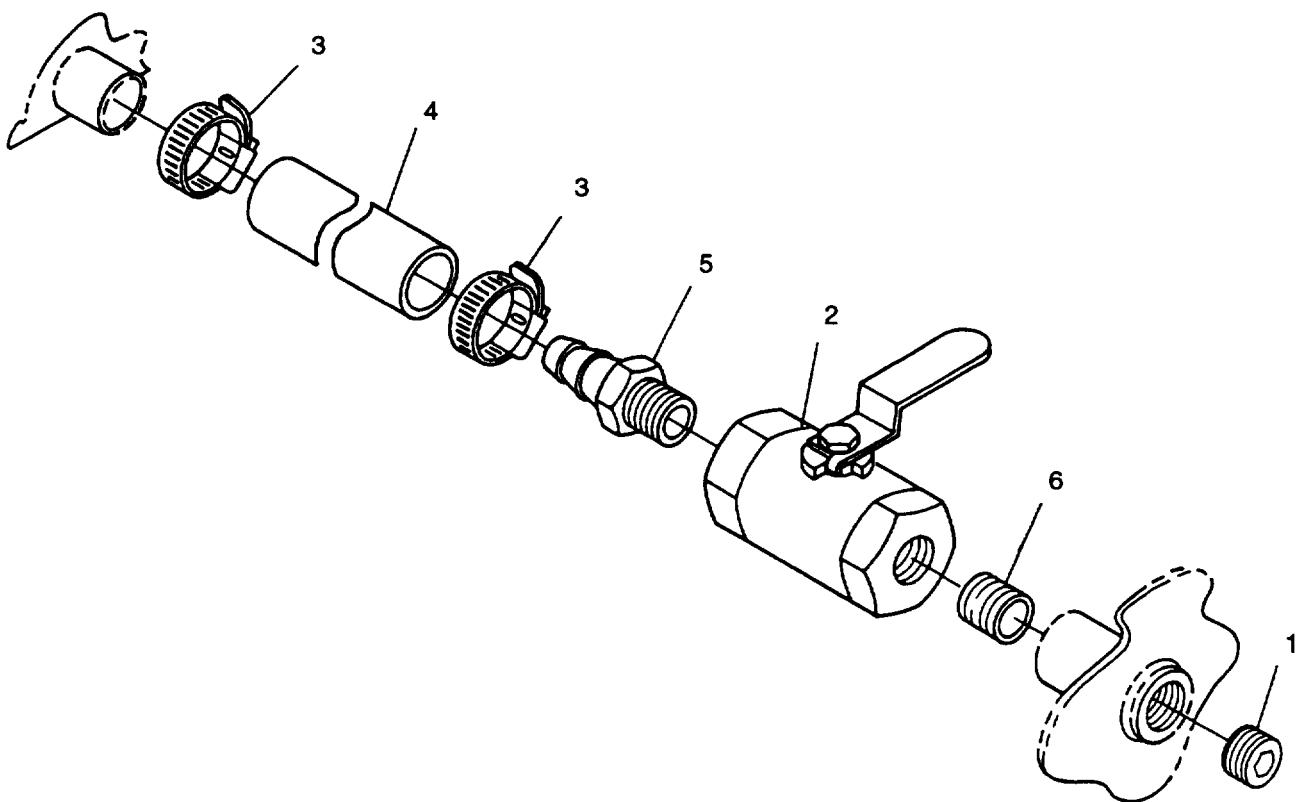

FIGURE 2-33. Oil Drain Line
- d. Remove plug (1, FIGURE 2-33), open drain valve (2) and drain engine oil into suitable container.
- e. Remove damps (3) and drain hose (4) from oil pan fittings and adapter (5).
- f. Remove drain valve (2) from skid fitting.
- g. Remove adapter (5) and pipe fitting (6) from oil drain valve (2).
- a. Install adapter (5, FIGURE 2-33) and pipe fitting (6) in oil drain valve (2).
- b. Install drain valve (2) on skid fitting.
- c. Install drain hose (4) on oil pan fittings and adapter (5). Secure with damps (3).
- d. Ensure drain valve (2) is closed, install plug(1) and service engine oil, paragraph 2.1.2.4.